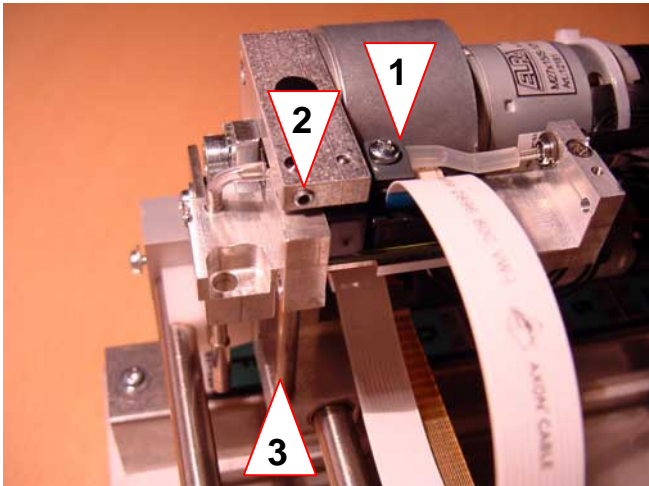

Fig. 4-13 Z-distributor board
5. Remove the screw (see Fig. 4-13, 1) and disconnect all cables and tubing from the Z-distributor board.
6. Remove the Z-distributor board (If the vertical slide is in the upper end-position, also remove the allen screw and the axis (see Fig. 4-13, 2 and 3).)
7. Remove the allen screw and the axis (see Fig. 4-13, 2 and 3).)